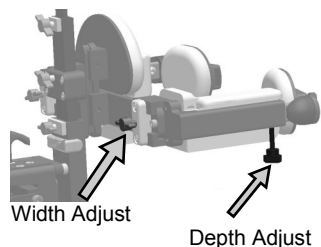

Fig. 12
- Loosen the knobs on the back side of the Upper Body Pads (fig. 12). Slide the pads outward enough to allow the client to fit between them (these pads will be re-adjusted after the client has been placed into the *KidWalk/KidWalk II*).